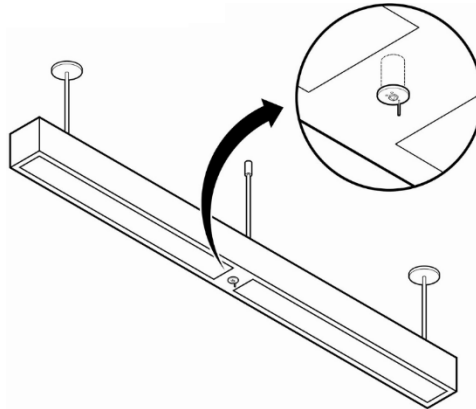

Figure 3: Sensor location in a fixture
2.	Determine the location for the sensor in the fixture and cut an existing knockout (½ inch) in the fixture. See Figure 3.